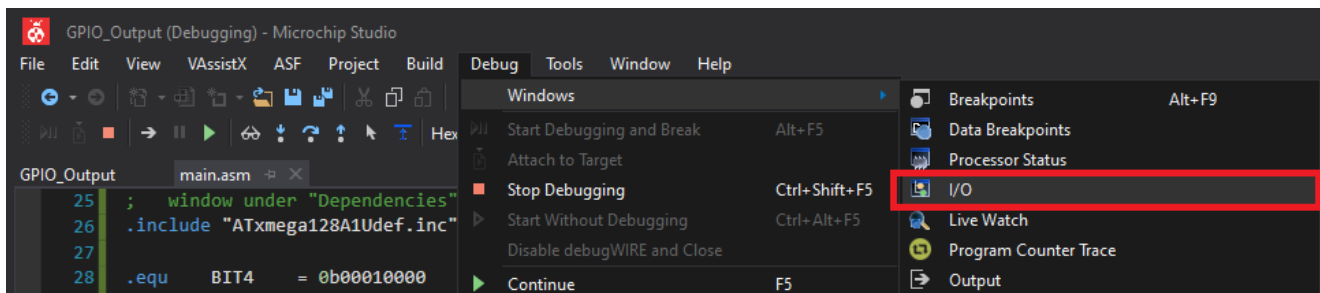

Figure 13: Opening the I/O view.
- While debugging, you can view any of the processor's registers, I/O ports, memory locations, etc.; a very powerful tool when writing embedded software. Open the *I/O* view by navigating to **Debug** → **Windows** → **I/O**, as shown in *Figure 13*.